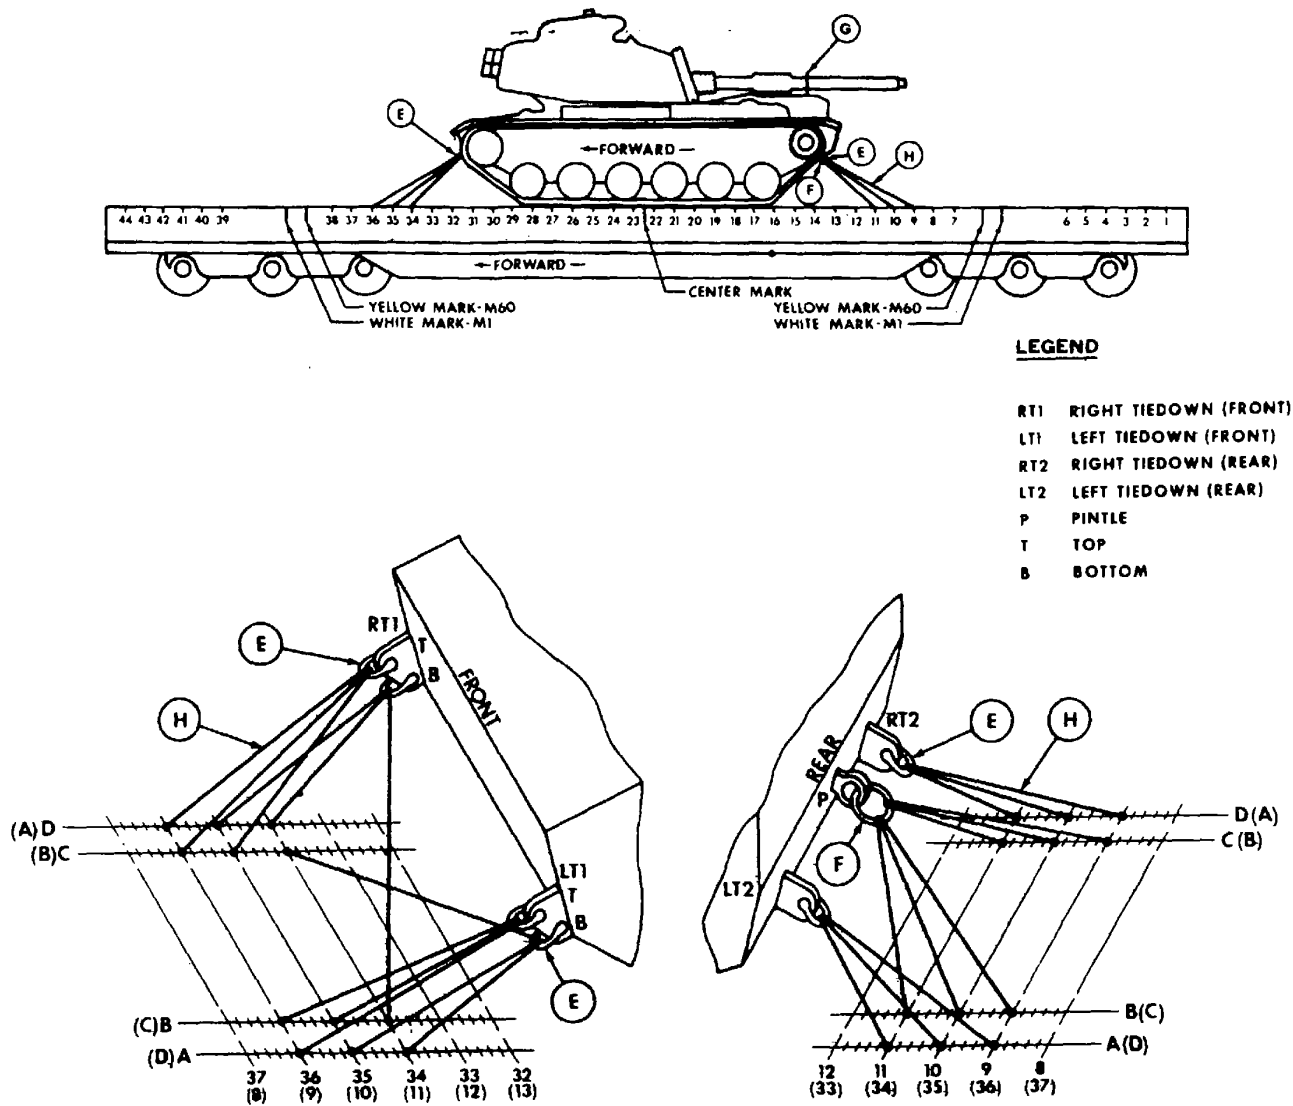
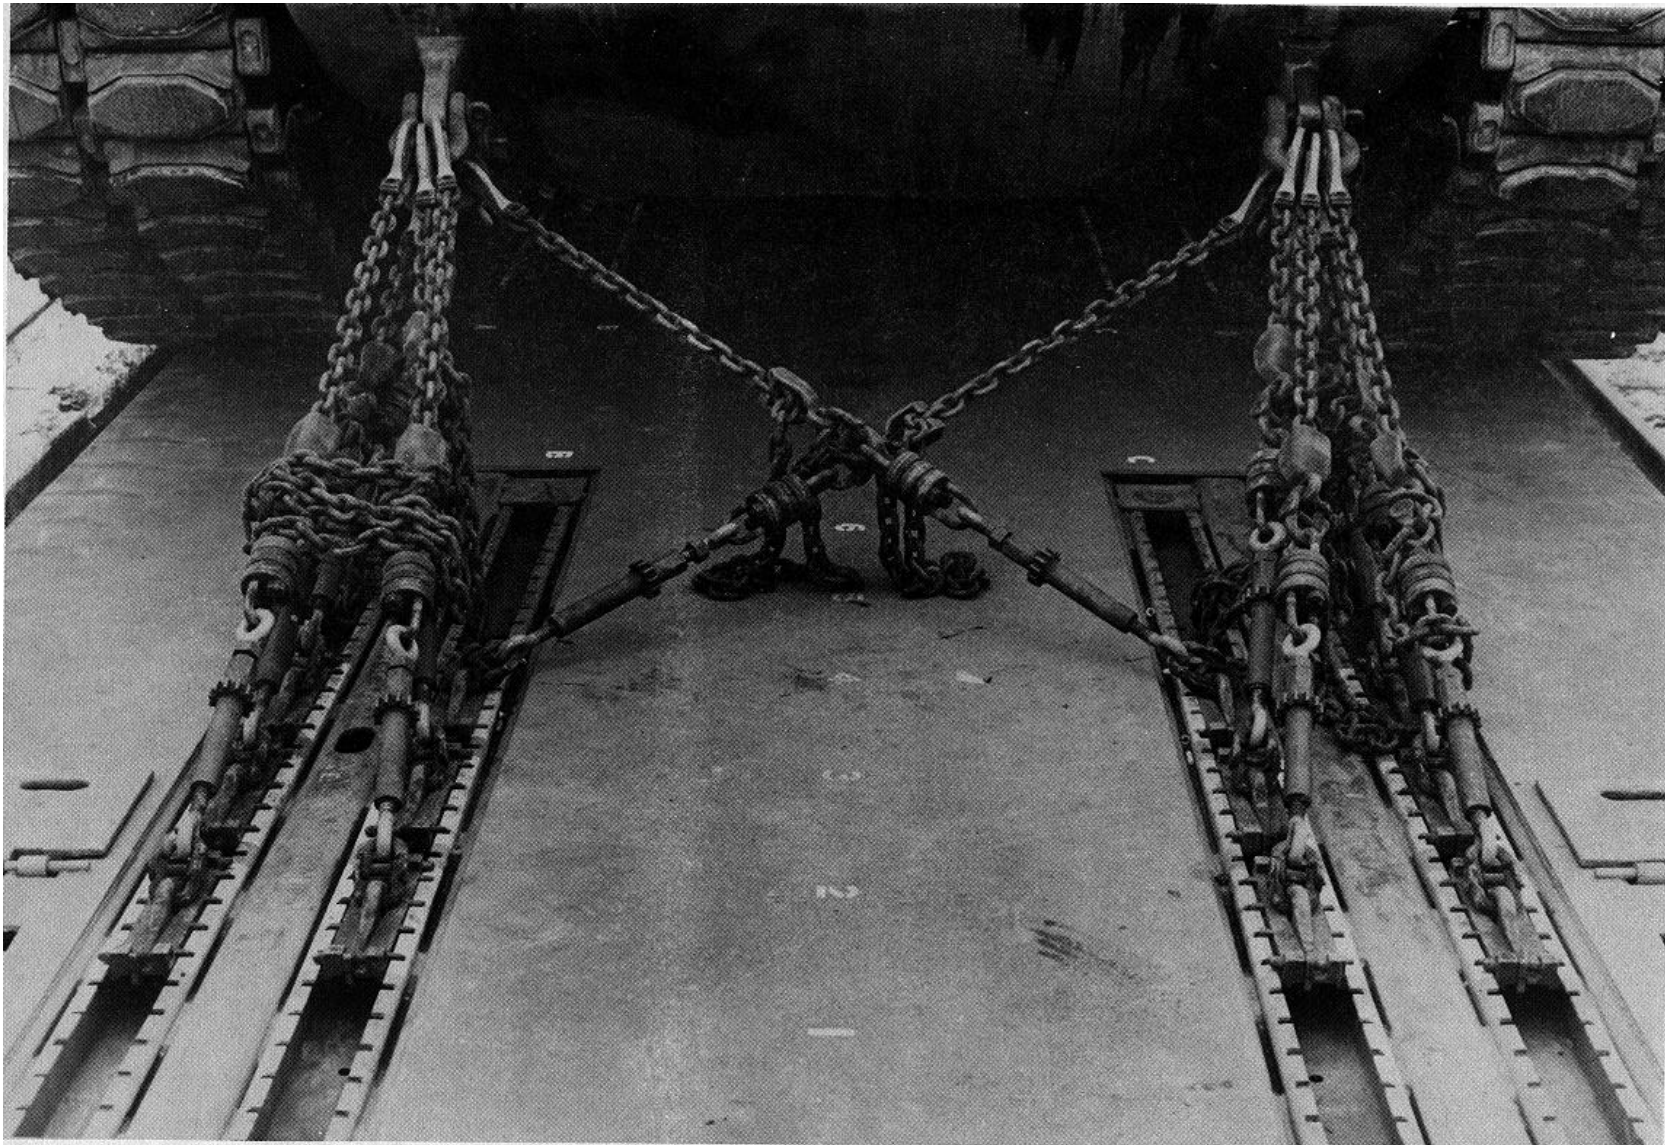

Figure 5-1. Chain tiedown arrangement for one M60 tank.
Figure 5-2. Front view of M60 tank loaded and restrained on 140-ton DODX flatcar.
a. A single M60 tank can be loaded onto the flatcar either by being driven onto the car over an end-loading ramp or by being lifted onto the car with a crane or cranes of at least 60-ton capacity. The tank must be centered on the car, with about equal overhang of its tracks on both sides of the car. A difference of 1 inch between the left-side and right-side overhang is the maximum permitted by many railroad load inspectors. The tank must be positioned so that the white mark at the center of the flatcar side is centered between the third and fourth roadwheels. The chain tiedown arrangement for a single M60 tank is shown in figure 5-1. Front and rear chain arrangements are shown in figures 5-2 and 5-3, respectively. The bill of materials required to secure each M60 tank on the flatcar is provided in table 5-1. The application of the materials and chain tiedowns for a single M60 tank is explained in table 5-2.
b. Two M60 tanks can be loaded onto the flatcar by being driven or lifted onto the car. Both tanks are generally positioned facing the same direction and secured as shown in figure 5-4. Also, both tanks must be centered over the centerline of the car so that the track overhang is about equal on both sides. Each tank will be positioned so that the center of the roadwheel nearest the end of the car is lined up with the yellow mark on the side of the flatcar, as shown in figure 5-4. The application of chain tiedowns for two M60 tanks facing the same direction is explained in table 5-3. If one or two M60 tanks are loaded facing the opposite direction from that shown in figures 5-1 and 5-4, the chain tiedowns for one tank will be applied as explained in table 5-4; or for two tanks, table 5-5.
a. A single M728 combat engineer vehicle must be positioned at the center of the flatcar in the same location as the single M60 tank shown in figure 5-1. The rear of this M728 vehicle must be tied down according to the same pattern as that used for the rear of an M60 tank. The front of the M728 vehicle must be tied down according to the pattern given in the following paragraph for securing one M728 and one M60 tank.
**Table 5-2. Application of Materials for Loading and Securing One M60-Series Tank (Fig 5-1 )**
**Table 5-3. Application of Materials for Loading and Securing Two M\$O-Series Tanks (Fig 5-2)**
**Table 5-4. Application of Materials for Loading and Securing One M60-Series Tank Facing the Opposite Direction from that Shown in Figure 5-1**
**Table 5-4. Application of Materials for Loading and Securing One M60-Series Tank Facing the Opposite Direction from that Shown in Figure 5-1-Continued**